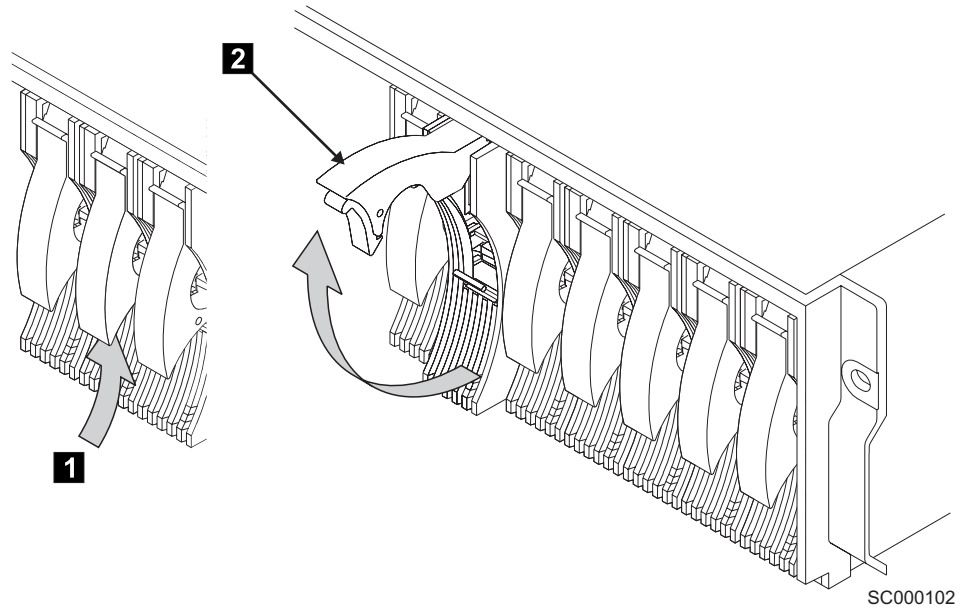

Figure 47. Opening the handle of a disk drive module
9. On the disk drive module whose check light is on (see step 8), press the blue latch **1**, and lift the handle **2** fully. This action pulls the module partially out of its slot as Figure 47 on page 63 shows.